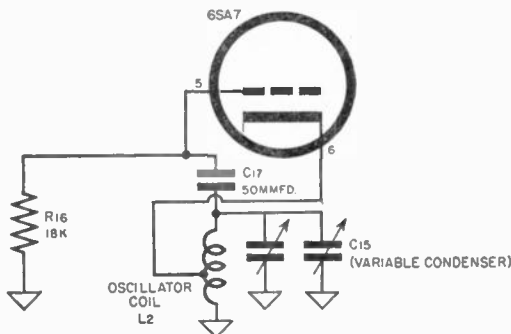

Fig. 2-40. Oscillator circuit.
h) Oscillator Circuit. Refer to Figure 2-40 for a sectional diagram of